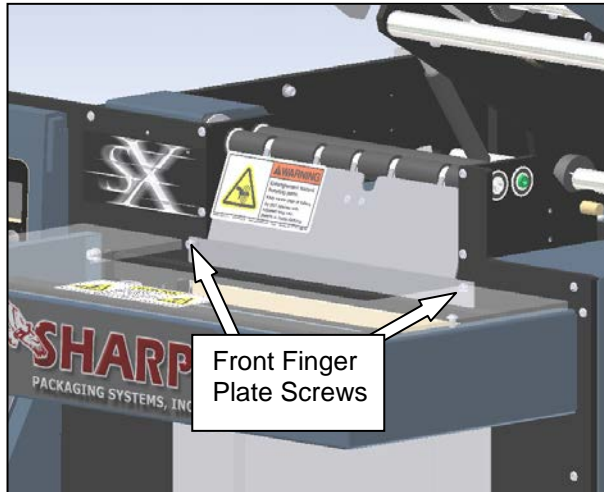

Figure 3-162. Front Finger Plate
6. Remove the front finger plate from the machine. **Do not pull the plate away from the machine too quickly, as the photoelectric eye is attached to the plate and wired to the machine.** Gently place the plate under the rollers, ensuring the sensor wire is not excessively pulled (Figure 3-162).